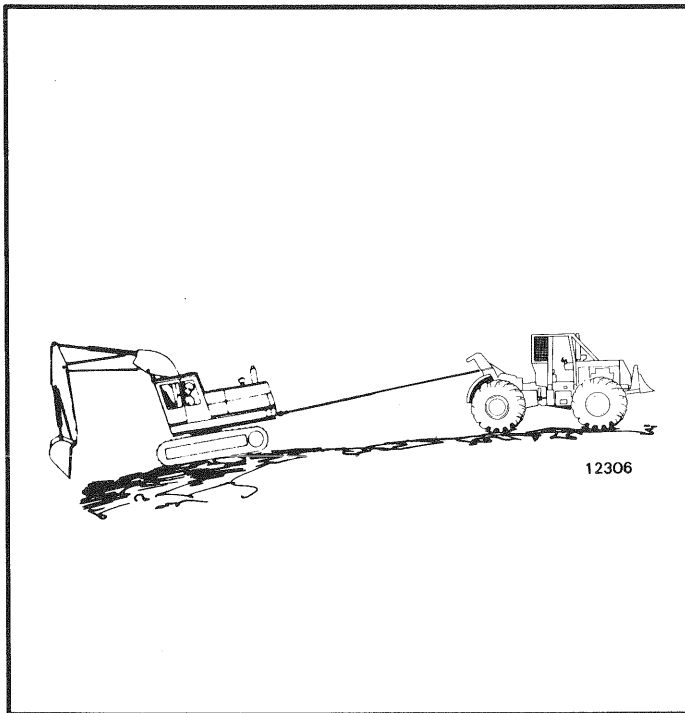

FIGURE 8. MOVE A DISABLED VEHICLE (STEP B)
B. A skidder or tractor equipped with a winch can be used to pull another vehicle from mud or other area where it can not move using only the drive wheels or tracks. See FIGURE 8. Use the following procedure: